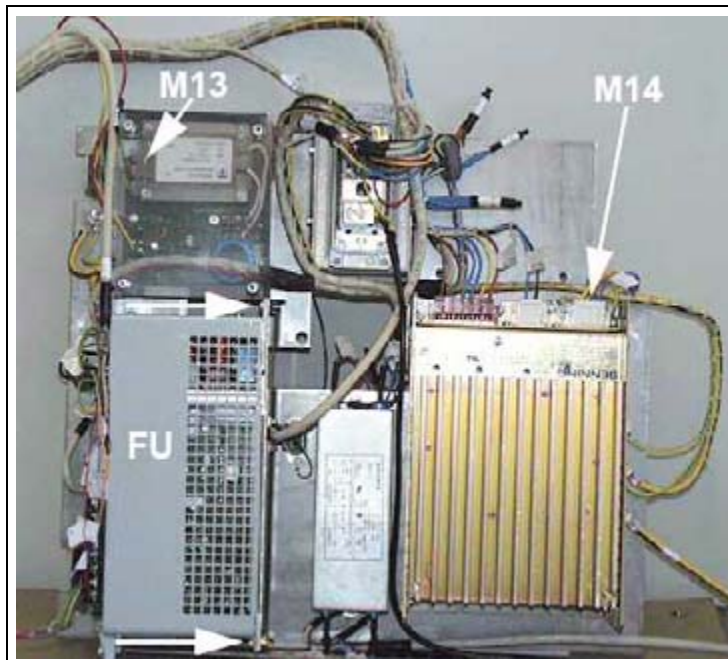

Fig. 28: FU
6. Replace the frequency converter after removing the Allen screws (Fig. 28 / p. 51).